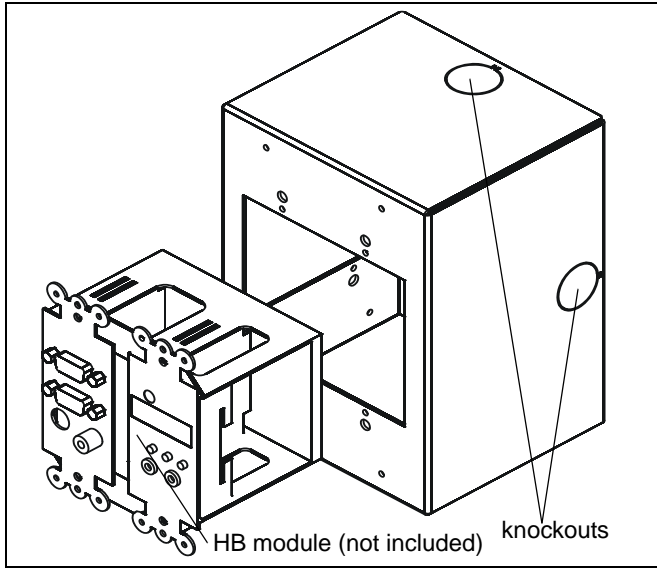

Figure 4
1. Remove any knockouts needed for 1/2" conduits and route any required conduits through knockout holes. (See Figure 4)